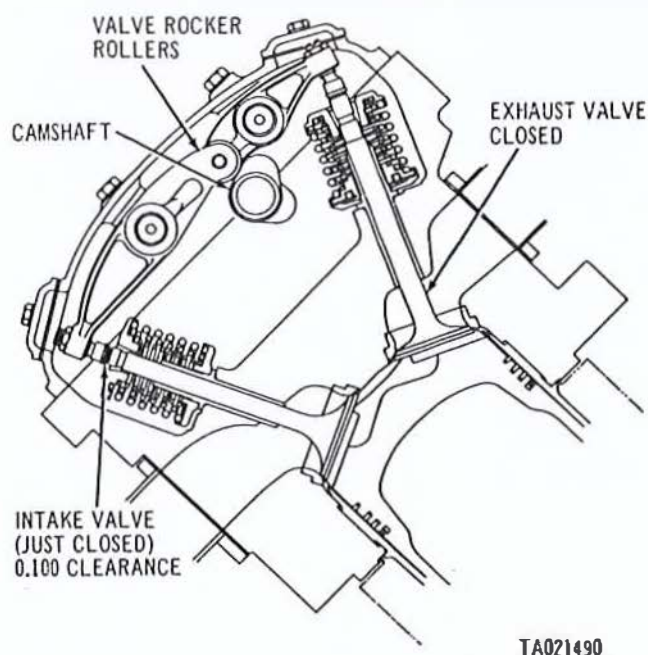
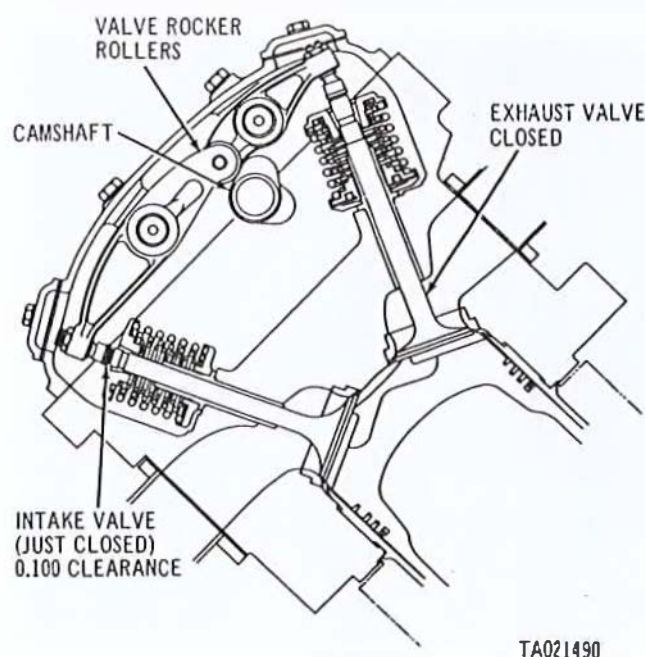
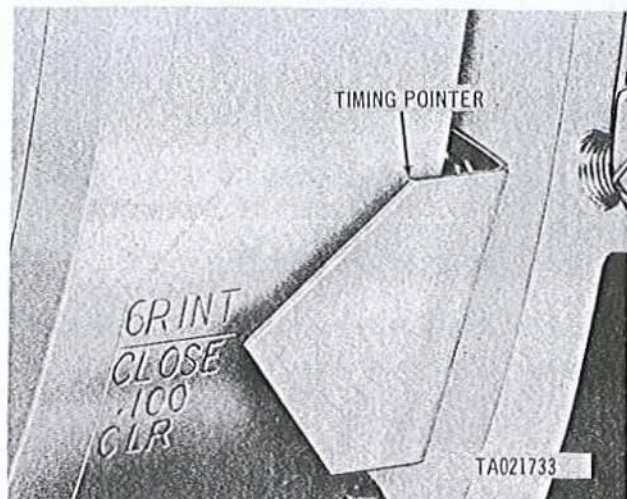
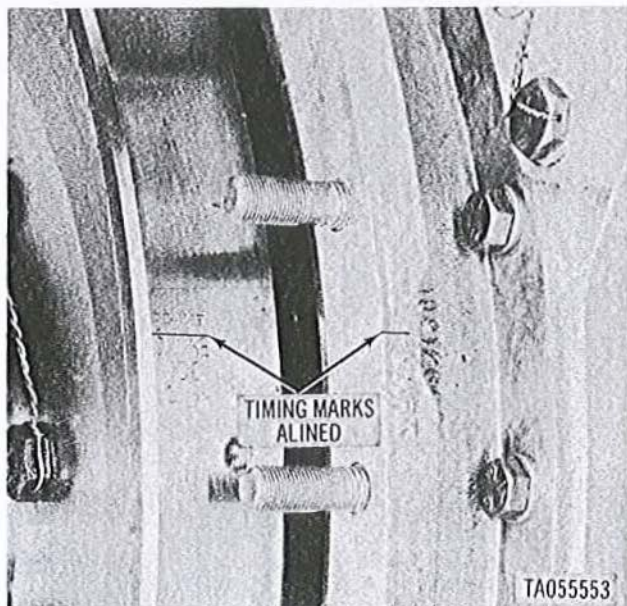

Figure 2-158. Cross section of cylinder 6R showing position of camshaft lobes for valve timing.
Figure 2-158. Cross section of cylinder 6R showing position of camshaft lobes for valve timing.
Figure 2-159. Flywheel timing marks alined with pointer for valve timing - right bank of cylinders, model AVDS-1790-2C and AVDS-1790-2D engines.
Figure 2-159.1. Flywheel timing mark alined for valve timing - right bank of cylinders, model AVDS-1790-2DR engine.
adjusting screw is just free of the valve stem (intake valve has just closed, fig. 2-158). In this position the flywheel mark "6R INT CLOSE 0.100 CLR" should be aligned with pointer (fig. 2-159). If flywheel marks are not aligned with pointer within 1/4 inch at the time the adjusting screw pad becomes free of valve stem, it will be necessary to
d.1. *Checking Valve Timing.* Turn flywheel counterclockwise, viewed from rear, until pad on valve adjusting screw is just free of the valve stem (intake valve has just closed, fig. 2-158). In this position the flywheel mark "6R INT CLOSE 0.100 CLR" should be alined with timing mark (fig. 2-159.1). If flywheel marks are not alined with mark within 1/4 inch at the time the adjusting screw pad becomes free of valve stem, it will be